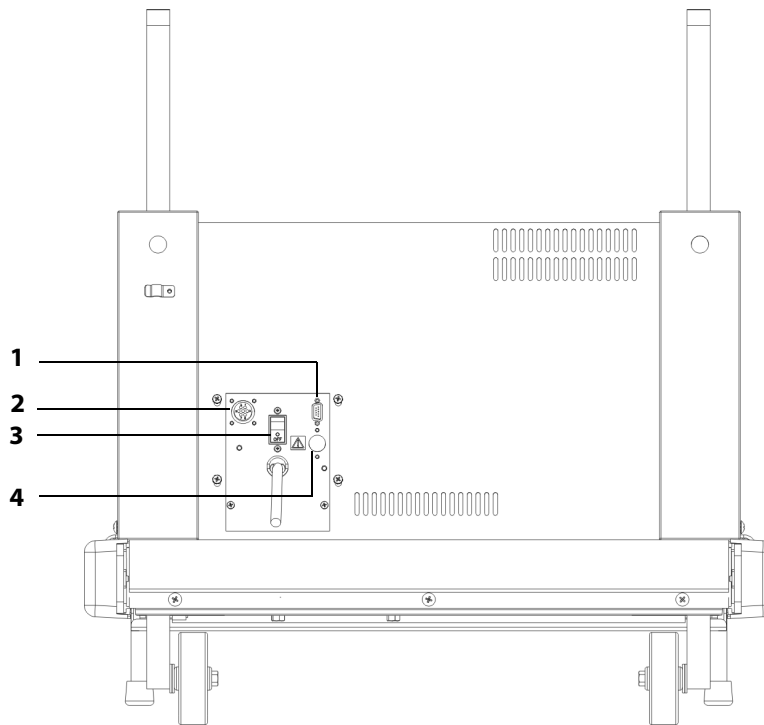

Figure B-2: Example of Monitoring System Connections/
2. Inspect the monitoring system interface cable connector, located on the front of the hood (see Figure B-2). If it appears damaged, contact an authorized technician before continuing this installation.